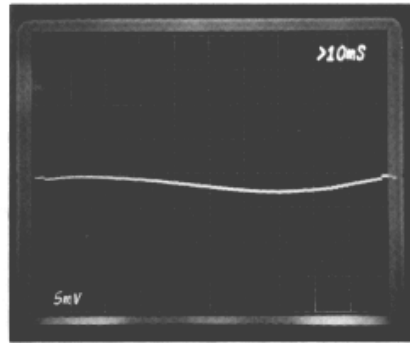

Figure 6-4. Return Loss Measurement
10. Adjust A203R21 for maximum return loss. See Note 3, and Figure 6-4 for typical waveform.